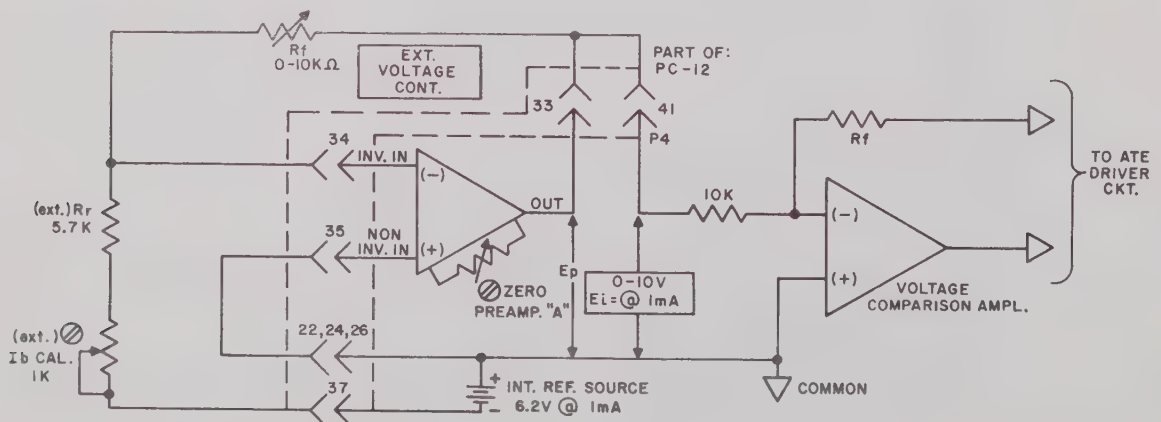

FIG. 3-7 TWO-TERMINAL RESISTANCE PROGRAMMING OF THE VOLTAGE CHANNEL, USING PREAMP "A" AND THE INTERNAL REFERENCE SOURCE.
- 3-46 As mentioned previously (refer to PAR.'s 3-39, 3-40) a wide variety of external programming sources can be used to control the ATE voltage channel. By means of one or both of the ATE's uncommitted preamplifiers, the external control potential can be amplified, inverted and/or summed with an internal d-c signal. Alternately, the preamplifier can be used to perform remote, two-terminal resistance programming of the ATE voltage channel. As seen in FIG. 3-7, the INT. REFERENCE SOURCE (6.2V @ 1 mA) is connected to PREAMP "A" and the external input/feedback components are calculated to produce the required 0 to 10 volts control signal from the preamplifier output.
- 3-47 (Refer to FIG. 3-7). The preamplifier functions here in the inverting configuration, producing its output voltage (E_p), which is made equal to the required control voltage " E_i " according to the equation: